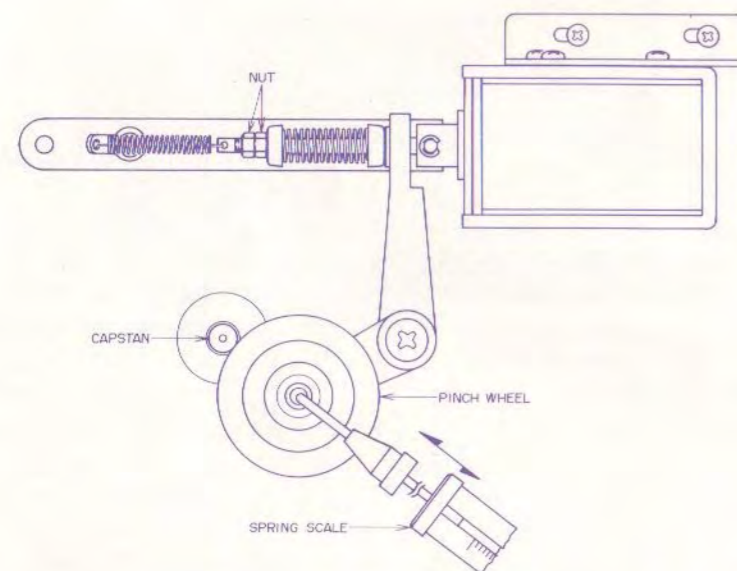

Fig. 6
6. PINCH WHEEL PRESSURE ADJUSTMENT (Refer to Fig. 6)
Measure pinch wheel pressure with a spring scale as shown in Fig. 6. Pull pinch wheel with spring scale and gently return. Adjust pinch wheel pressure adjustment nut to obtain a 1.35 kgr-cm spring scale indication as the pinch wheel touches the capstan when being returned.